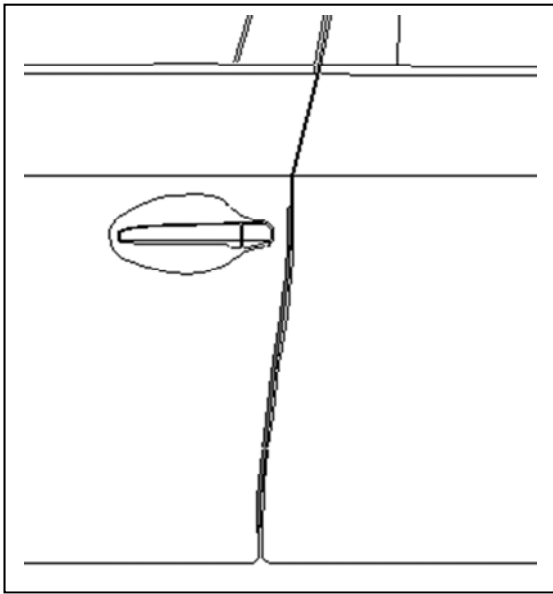

Fig. 1-9
- (h) Carefully close the door and visually ensure the DEG has sufficient clearance from the adjoining body panels (Fig. 1-9). Carefully remove the template from the door and retain for use on the passenger side.